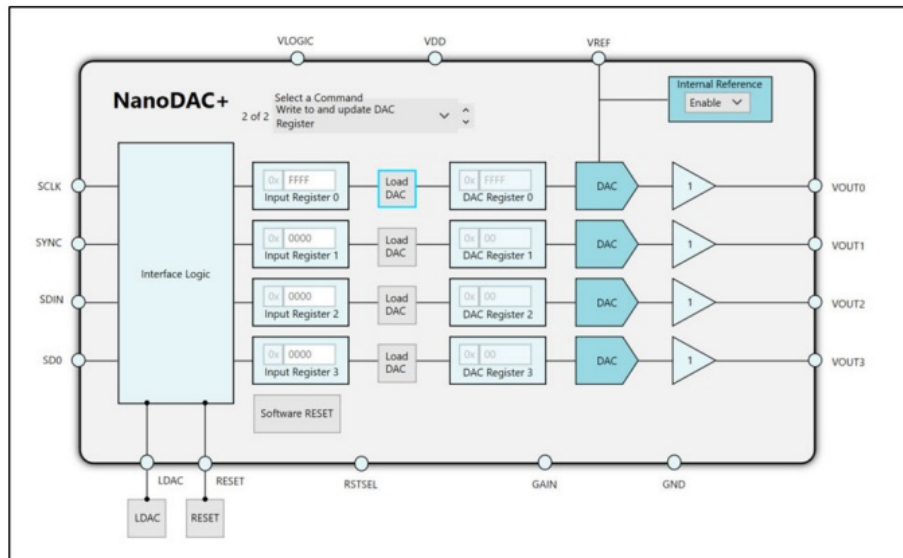
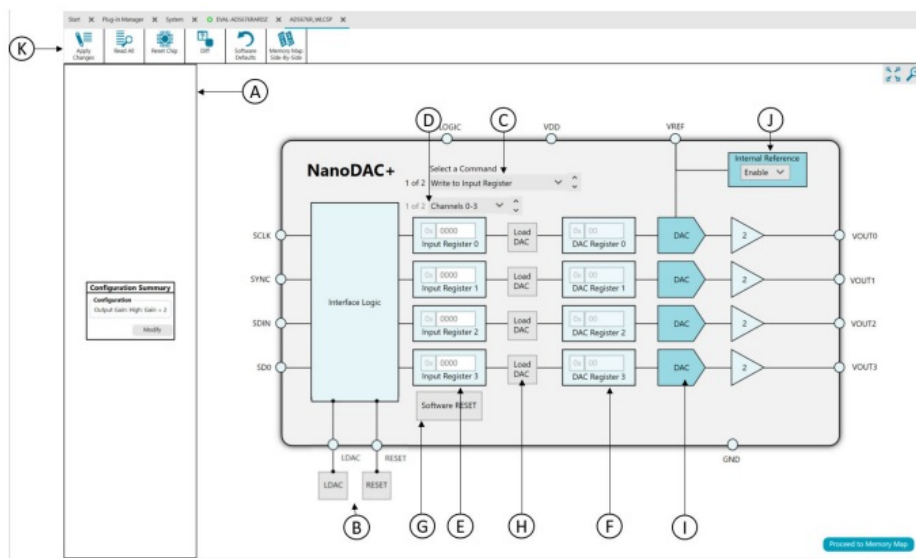

Figure 4. Chip Block Diagram View of the AD5675R or AD5676R
Figure 5. Block Diagram with Labels
4. Double-click the AD5675R or AD5676R chip to access the chip view as shown in Figure 4. This view provides a basic representation of functionality of the board. See Figure 5 and Table 1 for the details on the main function blocks of the board.
The block diagram is shown in Figure 5, and Table 1 describes the functionality of each block.